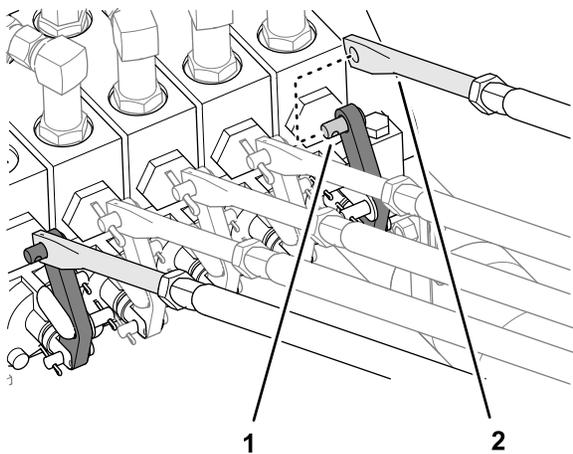
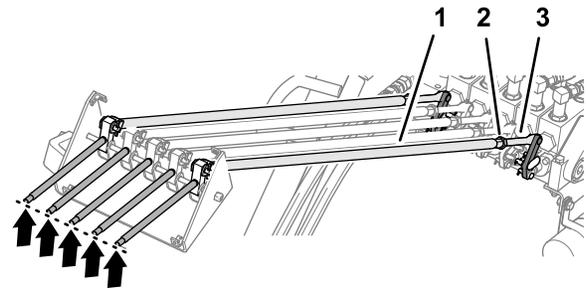

Figure 28
Figure 29
- At the control valve, assemble the control-rod link onto the clevis pin that is pressed into the control lever (Figure 28).
- Compare the alignment of the lever for the control rod that you are installing with the levers for cutting-unit 4, cutting-unit 1, 2, and 3, and cutting-unit 5 (Figure 29).
- If the lever for the control rod is not aligned with the rest of the levers, separate the control-rod link from the control lever clevis pin, rotate the control-rod link to align the lever (Figure 29), and assemble the control-rod link to the control lever clevis pin (Figure 28).